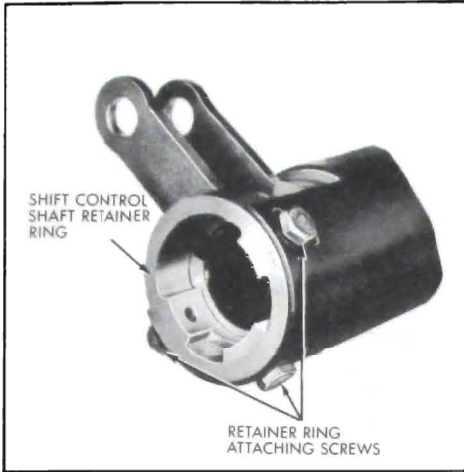

Figure 8-84—Shift Control Shaft Retainer Ring
15. Remove the three screws that retain the control shaft retainer ring to lower end of mast jacket. See Figure 8-84.
9. Insert control shaft retainer ring in mast jacket and install the three retaining screws. See Figure 8-84.